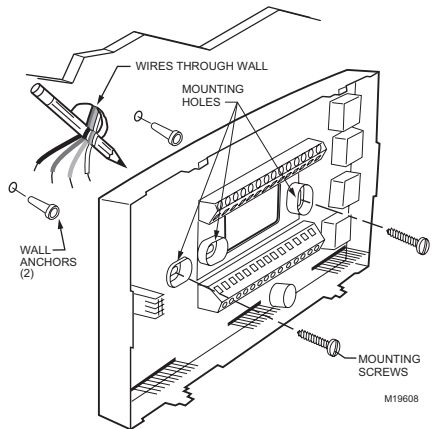

Fig. 3. Mounting the subbase.
2. Use a pencil to mark the mounting holes. (See Fig. 3).